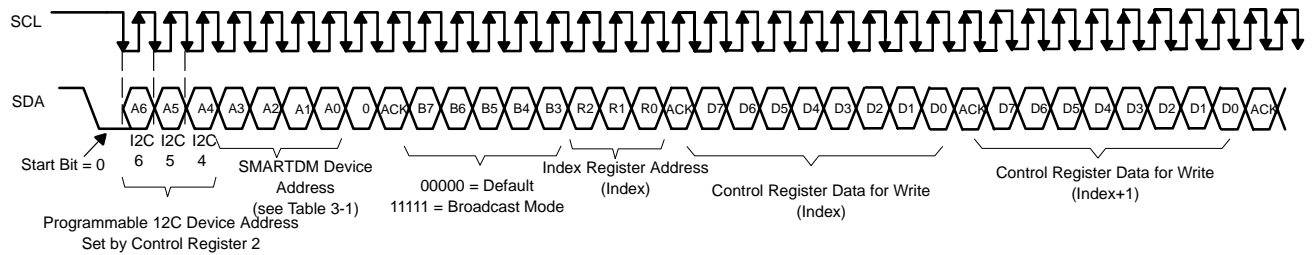

**Figure 3–5. S2C Programming**
2. Write data to program control register as specified in Figure 3–5 with bits D14–D11 = XXXX (don't care).